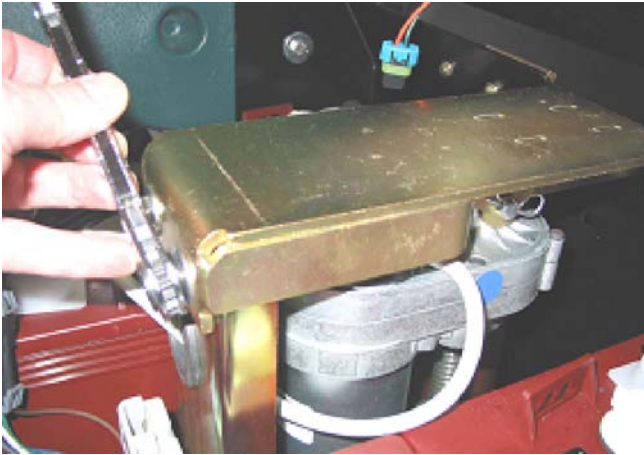

FIG. 4
4. Loosen the four bolts holding actuator plate. (Fig. 4)